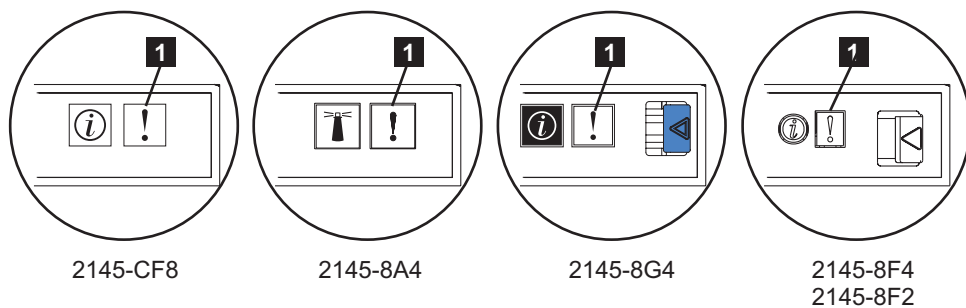

Figure 80. Error LED on the SAN Volume Controller models 2145-CF8, 2145-8A4, 2145-8G4, and 2145-8F4 or 2145-8F2 operator-information panel
**Is the operator-information panel error LED **1** that you see in Figure 80 illuminated or flashing?**